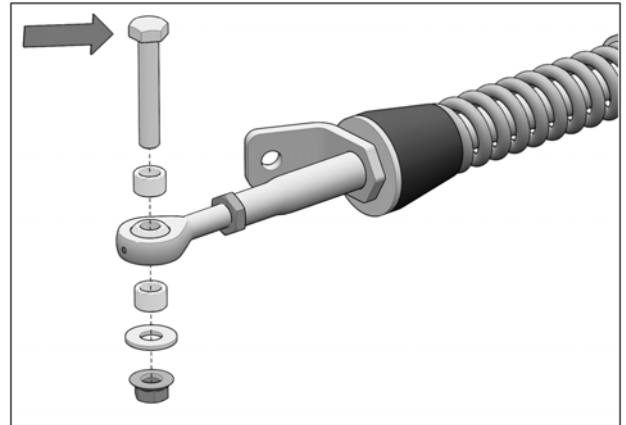

Fig. 23
7. Remove bolts, nuts, washers and bushings from front stabilizing rod ends as shown in Fig. 23